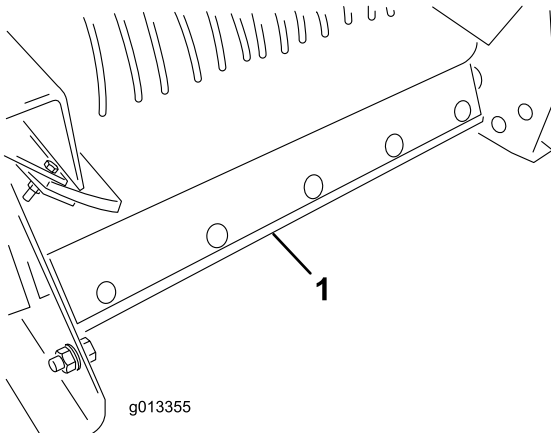

Figure 56
5. Remove the belt cleaning scraper assembly from the rear of the machine (Figure 56).